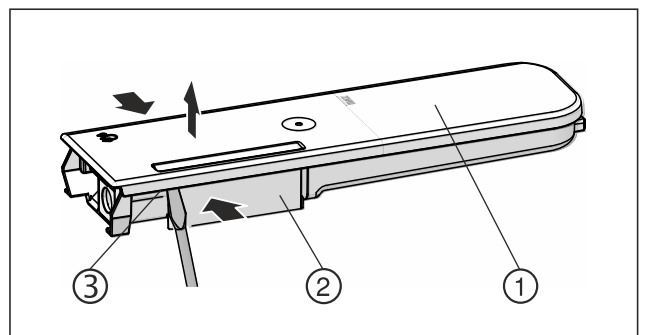

Fig. 128
- ▶ Push the water tanks Fig. 128 (2) together, leverage the cover Fig. 128 (1) carefully over the latching tabs Fig. 128 (3) and lift it up.
- ▶ Move the cover Fig. 128 (1) slightly forwards and back, and remove to the top.